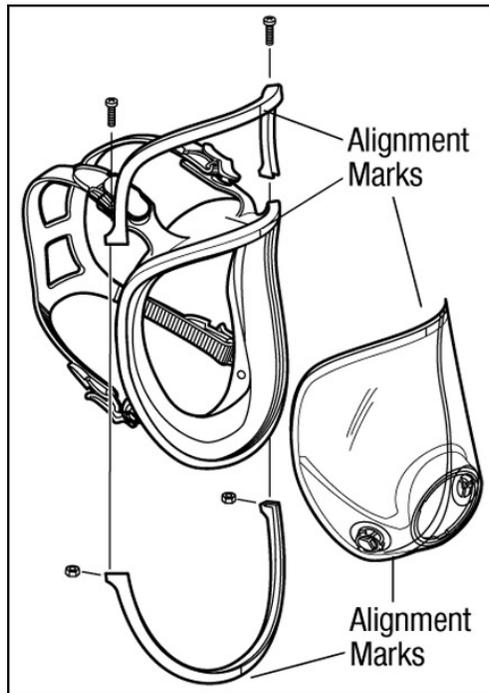

Fig. 19
3. Remove the (2) Phillips screws from the lens/face seal frame. Pull the frame top and frame bottom away from face seal.
5. Place new lens and face seal together aligning marks at top and bottom. Position top and bottom frame, again aligning marks top and bottom. Install and securely tighten screws. Make certain alignment marks are properly aligned top and bottom with all components. (Fig. 19)
2. Position bottom frame, aligning center vertical mark, and press in place. (Fig. 19)